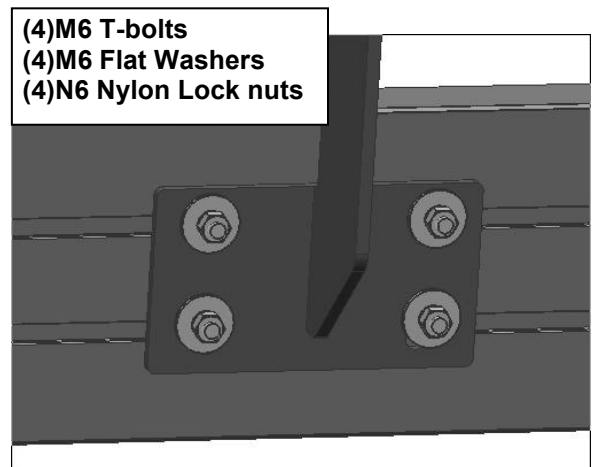

Fig 16 Bracket Installation
6. Once all (2) Brackets have been installed, Select a Running Board. Slip (8) M6 T-Bolts into each bottom channel **(Figure 15)**. Carefully position the Running Board onto the Mounting Brackets. Attach the Running Board to the Mounting Brackets with (4) M6 T-bolts, (4) M6 flat washers and (4) M6 nylon lock nuts, **(Figure 16)**. Do not tighten hardware at this time